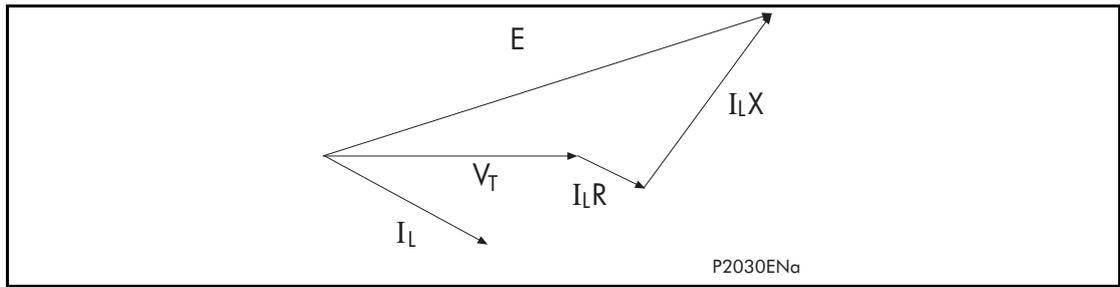
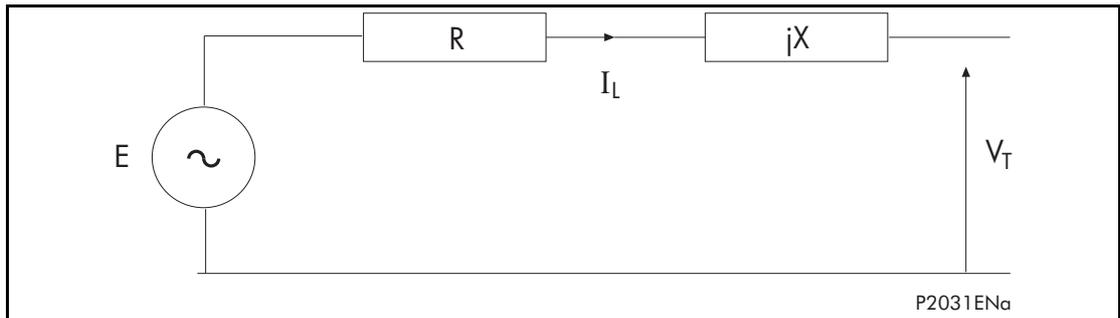
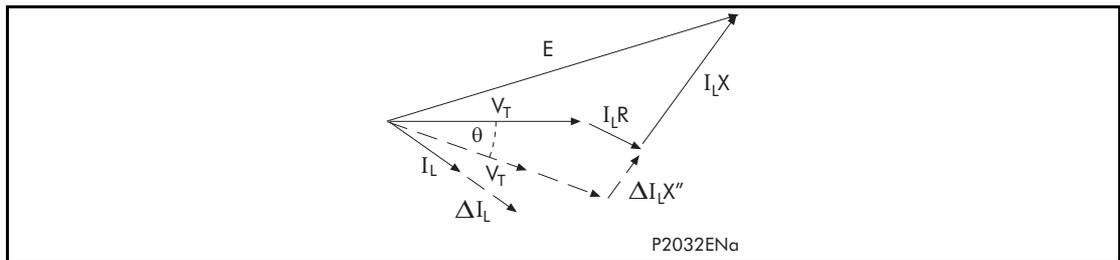

Figure 6: Vector diagram representing steady state condition
Figure 7: Single phase line diagram showing generator parameters
Figure 8: Transient voltage vector change θ due to change in load current ΔI_L
To understand the relation between the resulting voltage vector angle change following a disturbance and the embedded generator characteristics a simplified single phase equivalent circuit of a synchronous generator or induction generator is shown in Figure 6, Figure 7 and Figure 8. The voltage V_T is the symmetrical terminal voltage of the generator and the voltage E is the internal voltage lying behind the machine impedance which is largely reactive (X). When a disturbance causes a change in current the terminal voltage will jump with respect to its steady state position. The resultant voltage vector is dependent on the rate of change in current, and the subtransient impedance of the machine, which is the impedance the generator presents to a sudden load change. In turn the current change depends on how strong the source is (short circuit capacity) and the voltage regulation at the generator terminal which is also affected by the reactive power load connected to the machine.